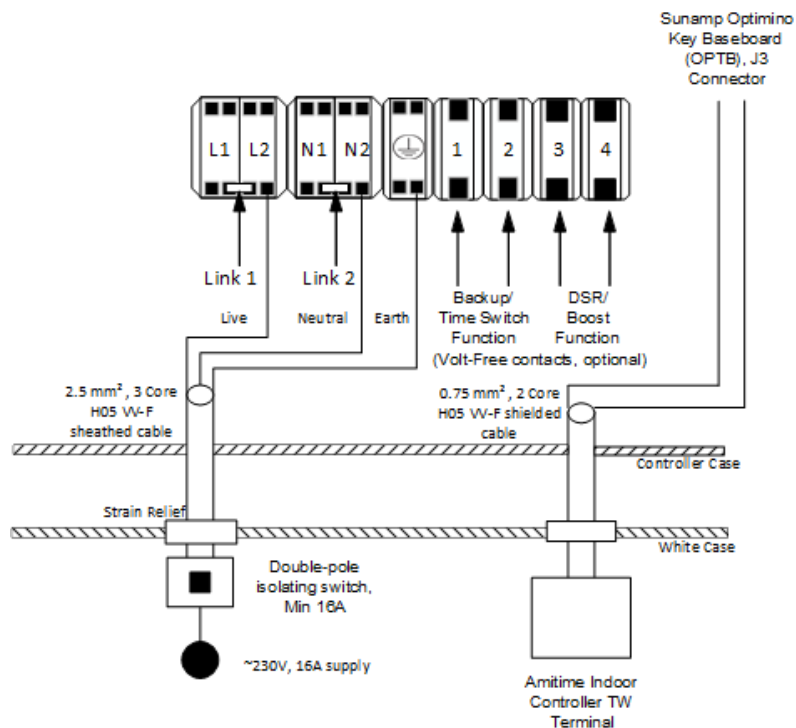

Figure AE.1 - Thermino xPlus with AE01 Optimino key
- Thermino xPlus with the “AE01” & “AE02” Optimino keys (D0084 – Section 6.4.2 for wiring instructions & Figures AE.1 & AE.2 below)
Using a 2-core shielded cable 0.75mm², the cable will act as a hot water heating tank sensor from the Sunamp Optimino Board (OPTB) – terminal J3 into the TW terminal of the Amitime indoor controller (please refer to HP installation manual). Please run the wire into the Heat Battery appliance via the appliance case cabling grommets and then into the control box housing through the hole available. Secure the cables in terminals J3 on the Optimino Board; please see Figures AE.1 & AE.2 below for reference.